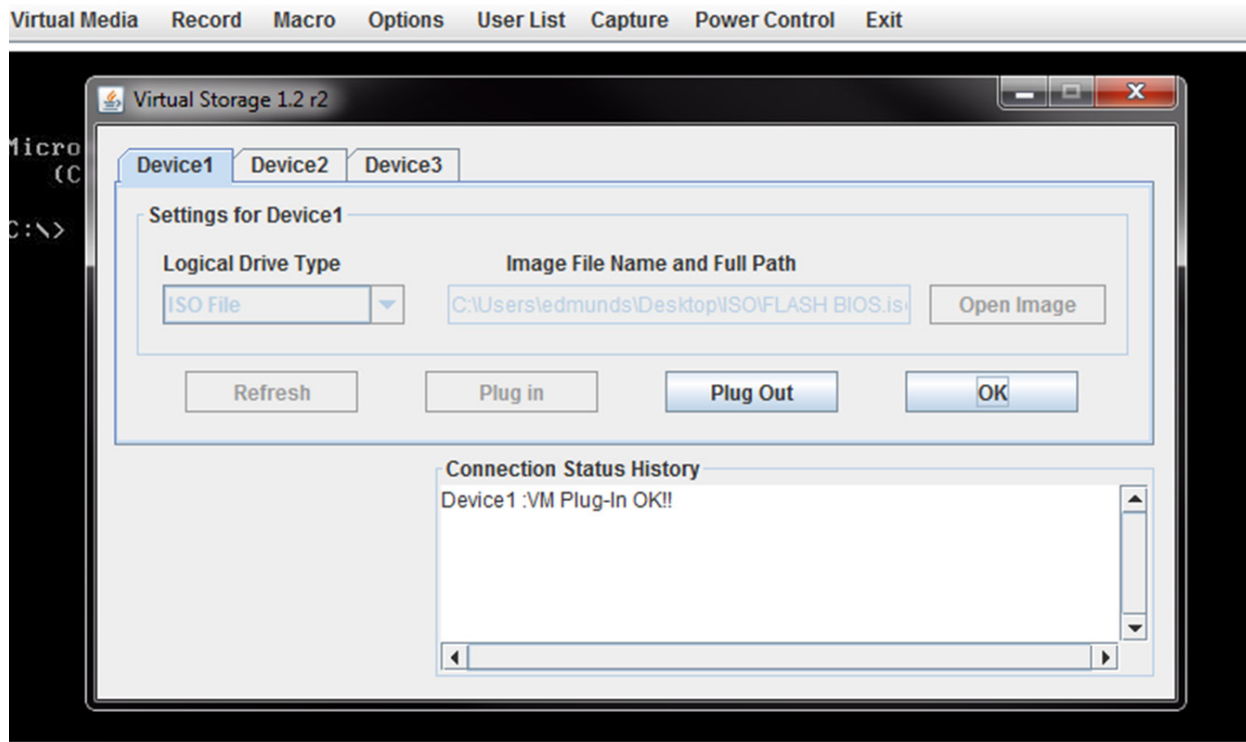

Figure A-7. Pressing the Plug in and OK Buttons for an ISO File
5. After you have selected the ISO file, press the Plug In button, then the OK button to exit the Virtual Storage window (Figure A-7). Skip ahead to step 8.